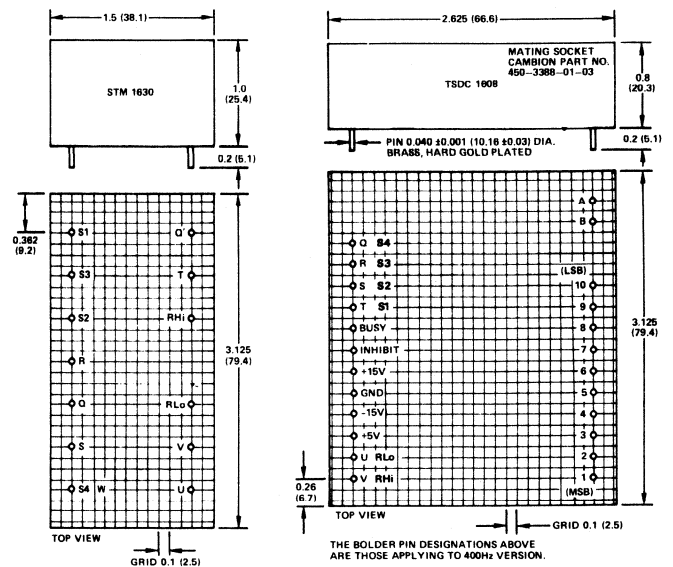

Figure 3. Figure 4.
**60Hz operation** - The 60Hz versions of the TSDC modules do not contain either the signal or the reference transformers. An external transformer module STM 1630/XYZ contains the signal and reference transformers. The pins QRST, U and V on the TSDC module connect to the pins QRST, U and V on the transformer module. The signal and reference inputs connect to the pins marked S1, S2, S3, W and RLo, RHi on the transformer module with the same meaning for these pins as in the 400Hz case where W replaces S4. The pin marked Q' is not used (see Figure 3).